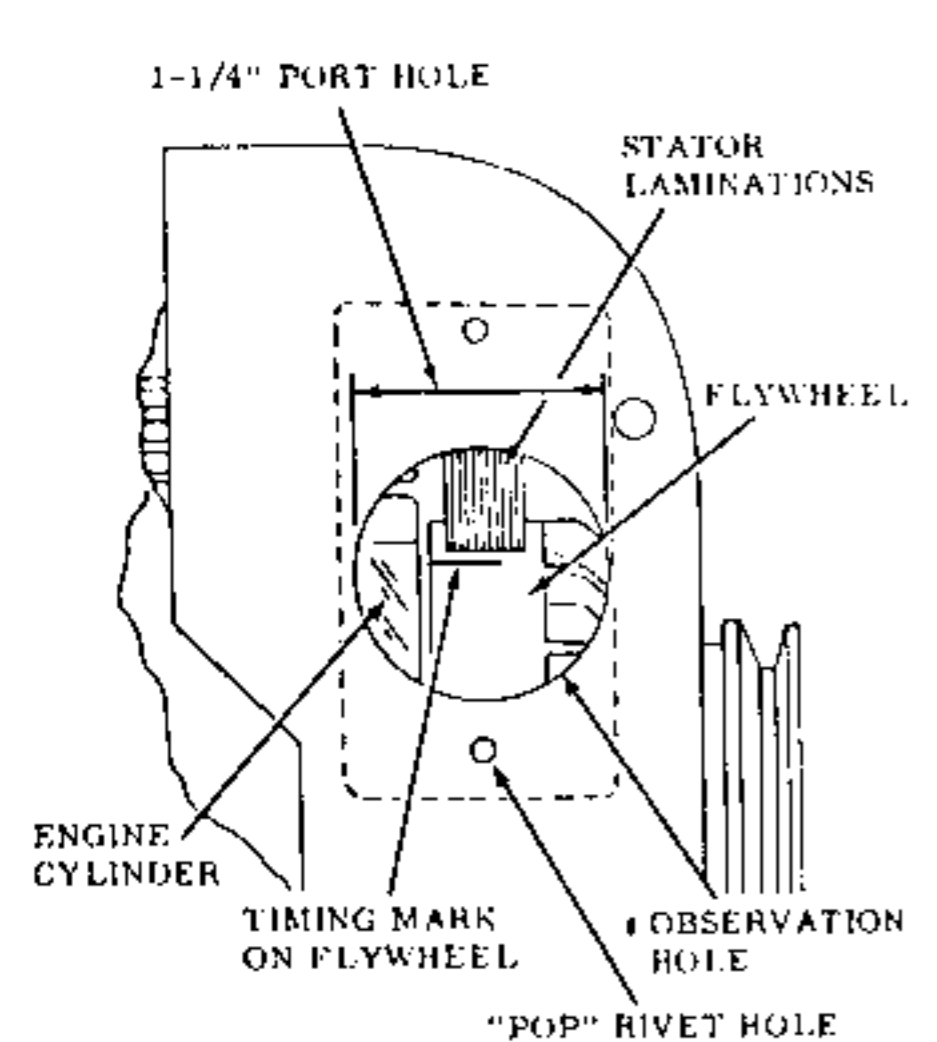

Fig. T17—On Models HH80, HH100 and HH120, remove identification plate to observe timing mark on flywheel through port hole in blower housing.
Fig. T16. Timing should be correct when points are adjusted to 0.020 inch (0.508 mm) gap. To check timing with a continuity light, refer to Fig. T17. Remove "pop" rivets securing identification plates to blower housing. Remove plate to expose timing port hole. Connect continuity light to terminal screw (78—Fig. T16) and suitable engine ground. Rotate engine clockwise until piston is on compression stroke and timing mark
is just below stator laminations as shown in Fig. T17. At this time, points should be ready to open and continuity light should be on. Rotate flywheel until mark just passes under edge of laminations. Points should open and light should be out. If not, adjust points slightly until light goes out. The points are actuated by push rod (53—Fig. T16) which rides against breaker cam (52). Breaker cam is driven by a tang on advance weight (55). When cranking, spring (54) holds advance weight in retarded position (TDC). At operating speeds, centrifugal force overcomes spring pressure and weight moves cam to advance ignition so spark occurs when piston is at 0.095 inch (2.413 mm) BTDC.